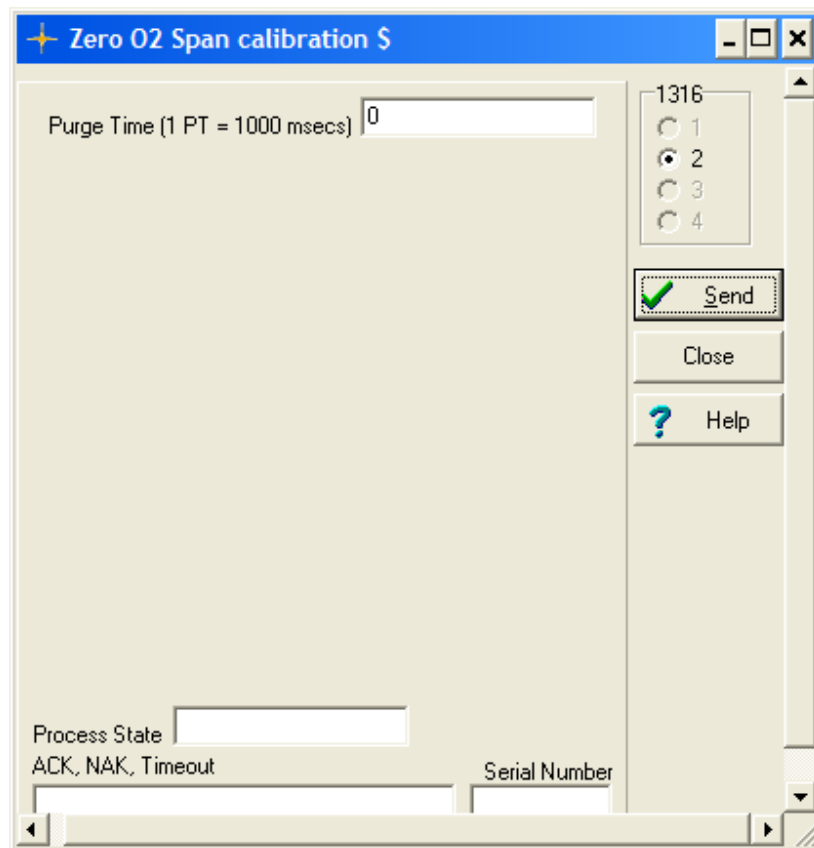

Figure 4.2. The Zero O₂ span calibration window to select Purge time during a calibration.
The CO₂, CO, HC, and NO channels are zero calibrated and the O₂ channel is span calibrated. Using the selected Purge Time (PT) (see figure 4.2).